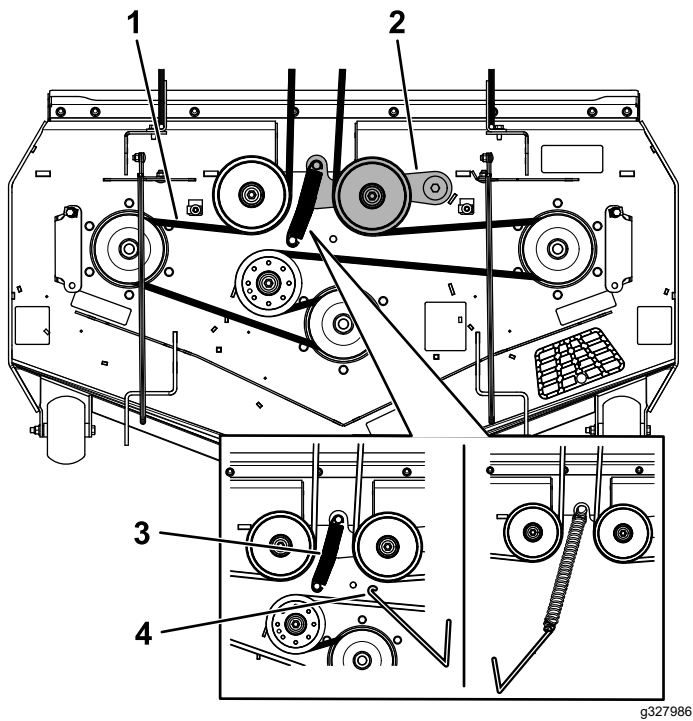

Figure 61
6. Using a spring-removal tool (Toro Part No. 92-5771), remove the idler spring from the deck hook to remove tension on the idler pulley (Figure 61).